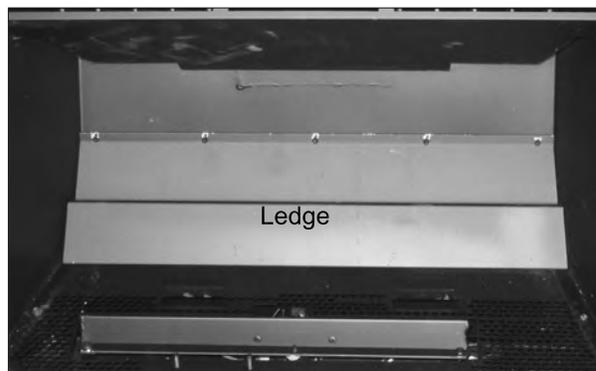

Figure 67: Back Brick Panel Ledge.
5. There is a ledge at the back of the firebox (see Figure 67). Place the back brick panel on the ledge and ensure the panel is flush at the bottom and top (refer to Figure 68). Do not push at the center of the panel.